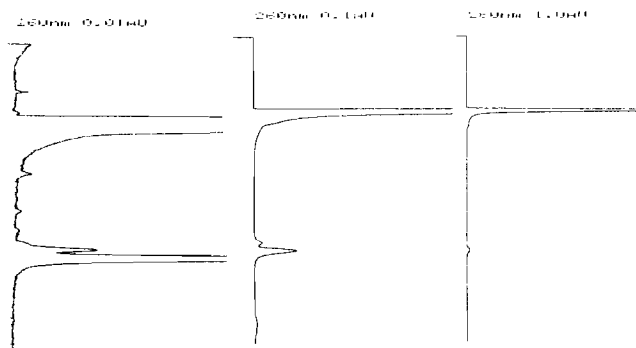

Figure 38-1. Signal-to-noise ratio with different sensitivities: 1 AU, 0.1 AU and 0.01 AU.
* Detect more sensitively.	Increasing the detector sensitivity by 2 will result in 2 time peak height, however, noise increases only by $\sqrt{2} = 1.4$ (see Fig. 38-1), the signal-to-noise ratio increases. Note: This is only effective with a 10 mV output signal. It has been shown that a 10 mV output has general advantages for trace analysis.